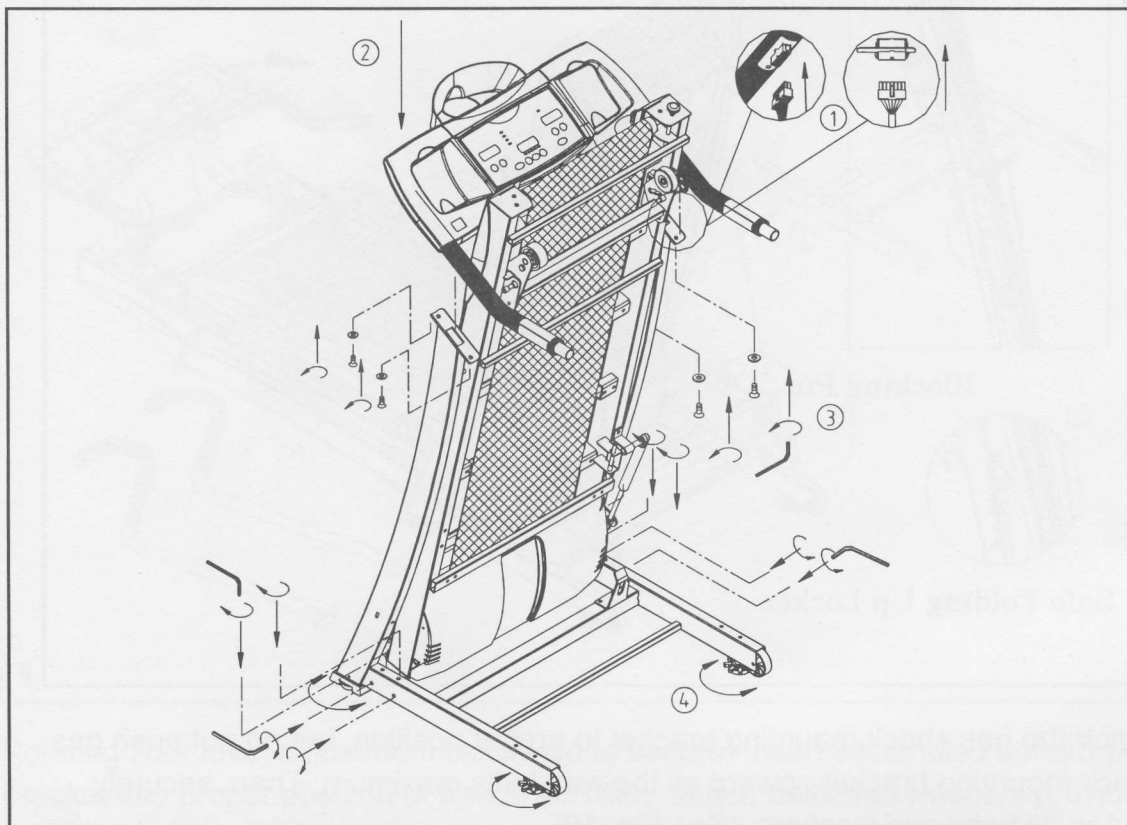

Fig.11
5. Please connect the ribbon cable securely to handlebar, and attach bolts and washers provided into proper position of electronic package and of bottom post bracket without fully tighten. Then, use hex allen wrench provided to securely tighten all bolts. Turn the floor level adjustments located on front and rear of bottom post bracket to steady your treadmill. (See Fig. 11)